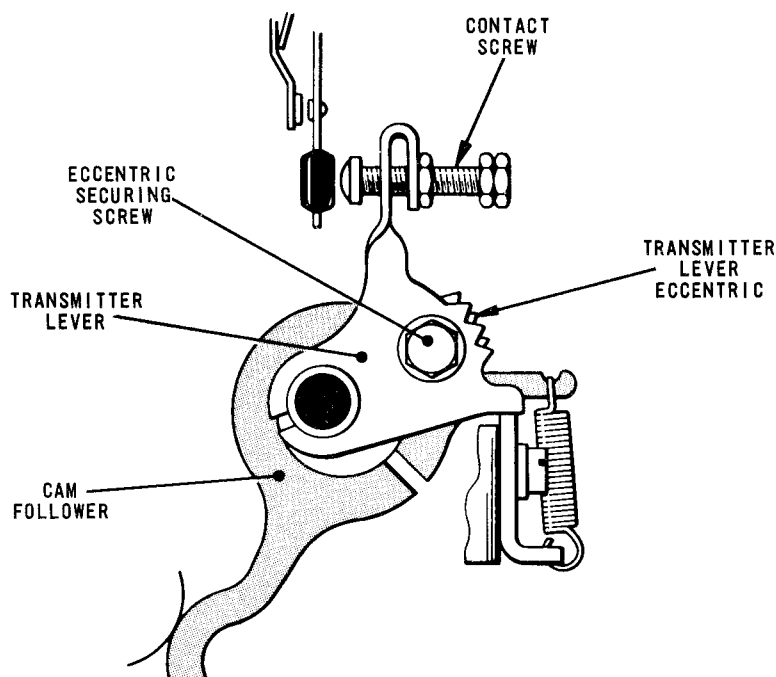

Fig. 4.65 TRANSMITTER LEVER/CAM ASSEMBLY
79.2 Lift the translator clutch abutment, turn the machine by hand and check that, during the second revolution of the translator clutch, the tongue breaks from the send contact between the changeover of Nos.4 (2nd from the front) and 5 (nearest the front) transmitter levers, Fig.4.65.
82.6 If this is not so, adjust the signal length by means of the Start (2nd from the rear) contact screw, Fig.4.65.
82.18 Adjust the Stop contact screw (nearest the rear), Fig.4.65, until the correct condition is achieved.
★ The cam followers, Fig.4.65, are adjusted in the factory and should not require re-adjustment unless the translator cam pack has been disturbed. If, however, the position (as distinct from the length) of any element is incorrect, it can be corrected by adjusting the respective transmitter lever, using the following procedure.
- (a) Turn the translator camshaft by hand until the transmitter lever to be adjusted is as shown in Fig.4.67. This figure indicates for each transmitter lever, Fig.4.65, the point in the translator camshaft revolution where the respective cam follower associated with that lever is on the root diameter of its cam, and thus the lever will be in a position in which it can safely be adjusted.
- 83.5 Connect any type of continuity tester across the Start contacts (2nd from the rear) and turn the machine slowly by hand until the top of the Start transmitter lever, Fig.4.65, is fully in.
- 83.8 If this is not so, adjust the signal length by means of the Start contact screw, Fig.4.65.
- 83.13 If this is not so, correct the position of the element by adjusting No.1 transmitter lever, Fig.4.65, using the following procedure.
83.18 If this is not so, adjust the signal length by means of the Stop contact screw, Fig.4.65.
83.21 If this is not so, adjust the signal length by means of the Start contact screw, Fig.4.65.
83.24 If this is not so, correct the position of the signal by adjusting the Start transmitter lever, Fig.4.65, using the following procedure.
- (a) Turn the translator camshaft by hand until the transmitter lever to be adjusted is as shown in Fig.4.67. This figure indicates for each transmitter lever, Fig.4.65, the point in the translator camshaft revolution where the respective cam follower associated with that lever is not in contact with its cam, and thus the lever will be in a position in which it can safely be adjusted.